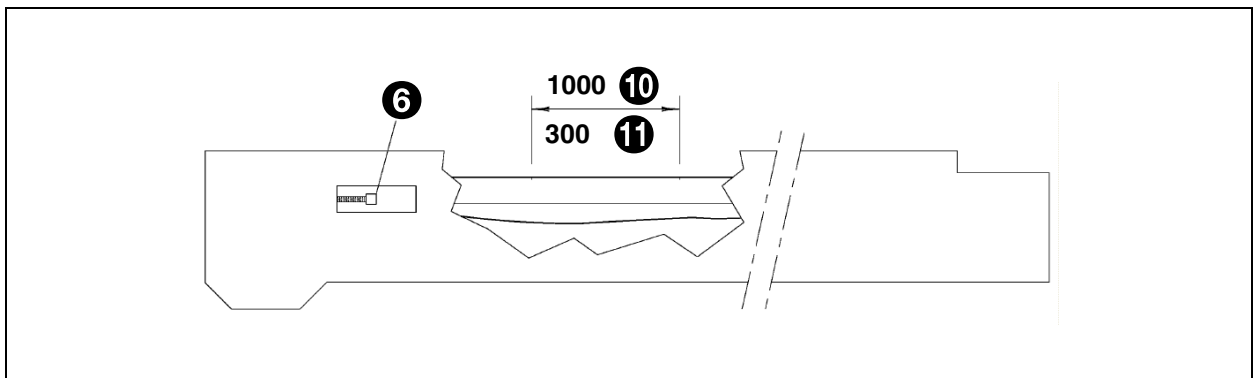
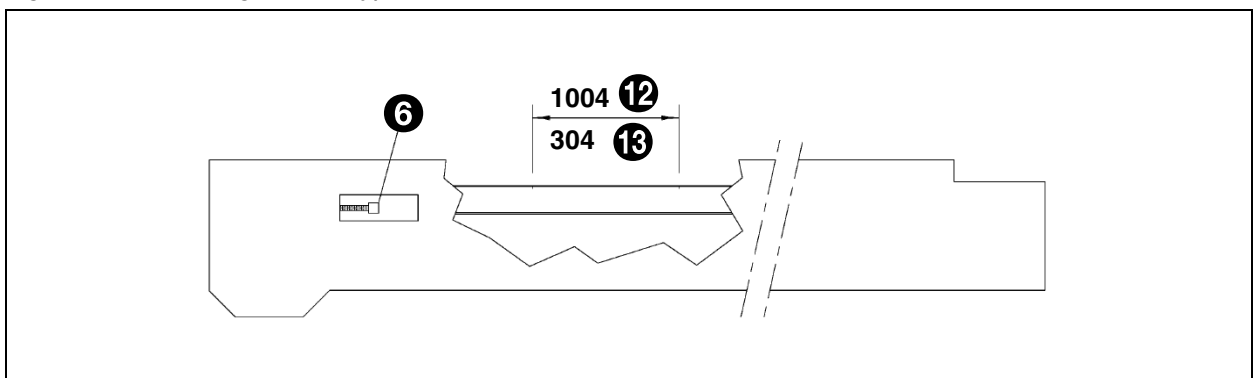

Fig. 214 - Tensioning belts of type 018752...
Fig. 215 - Tensioning belts of type 020984..
2. Make 2 marks on the untensioned belt at a given distance from each other (for example, 1000 mm (10), see fig. 214.)
3. Use the adjustment bolts (6) to tension the belt such that it stretches by 0.4%.
With this stretch the dimension 1000 mm (10) must then be 1004 mm (12), see fig. 215.
2. Make 2 marks on the untensioned belt at a given distance from each other (for example, 300 mm (11), see fig. 214.)
3. Use the adjustment bolts (6) to tension the belt such that it stretches by 1.3%.
With this stretch the dimension 300 mm (11) must then be 304 mm (13), see fig. 215.